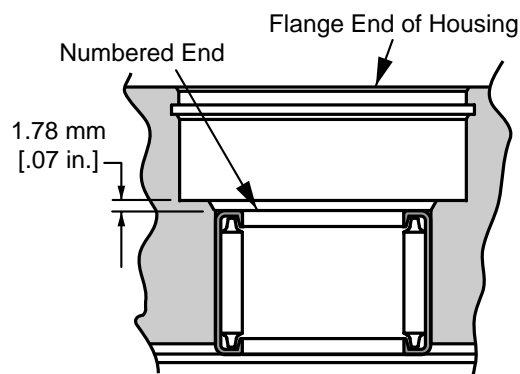

Figure 1-4
- Check the bearing (press fit) in front of housing. If needles remain in cage, move freely, and setting at the dimension shown in figure 1-4, removal not required.
- 2 If necessary, press new bearing in housing to dimension shown in figure 1-4 with the numbered end of bearing outward.